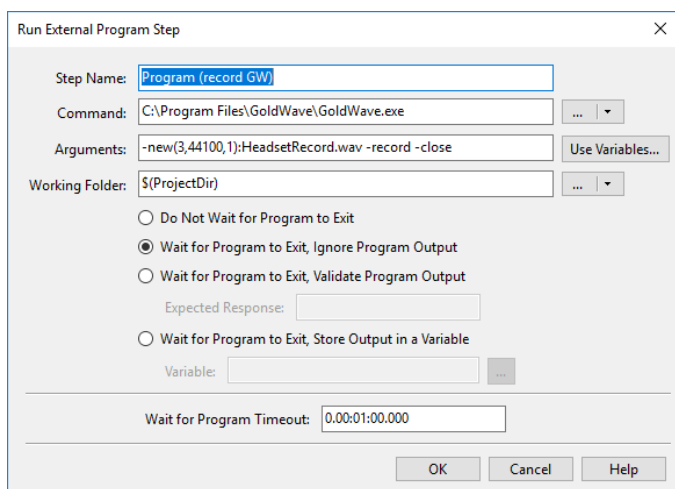

Figure 14. The Run External Program step to record a .wav file in GoldWave.
- A Run Program Step to record a .wav file in GoldWave (Figure 14). Note: GoldWave must be configured to automatically save the file when closed (from the GoldWave menu select Options – Control Properties – Record tab, then check Auto Save). The command line arguments are: